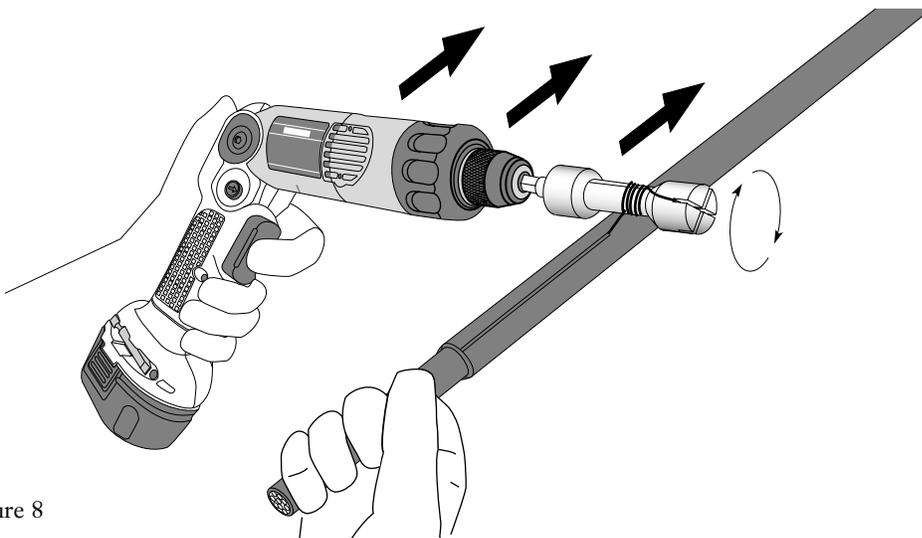

Figure 8
4.7 Making sure that your hands and fingers are clear of the rip cord, the RPOC-001 tool, and the chuck of the screwdriver, slowly bring the screwdriver up to an easily controlled speed as shown in Figure 8 below.